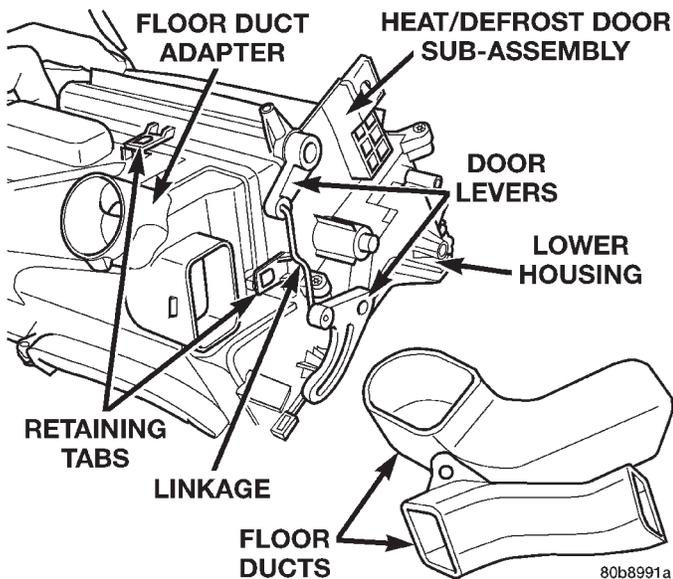

Fig. 43 Heat/Defrost Door Ducts, and Adapter
(11) Remove the evaporator, and styrofoam tray from the lower case.
(12) Place the heater-A/C housing upside down on a work bench.
(13) Unscrew and remove the 2 floor heat ducts.
(14) Unsnap and remove the duct adapter from the bottom of the heat/defrost door sub-assembly (Fig. 43).